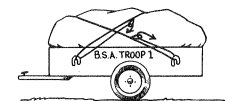

Figure 100
- To tie down and secure your equipment on a trailer or truck (see figure 100)